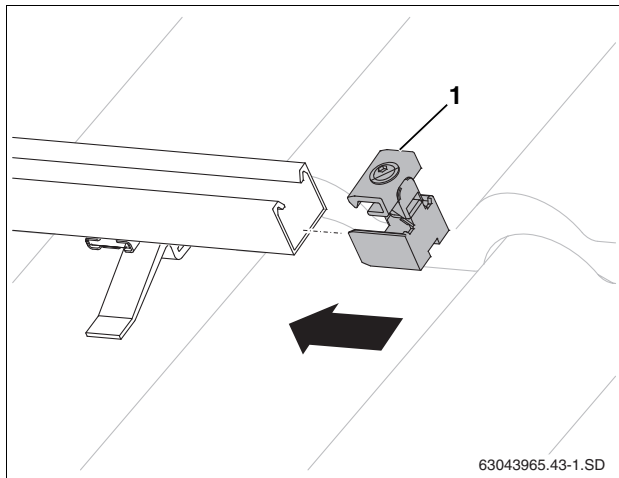

Fig. 39 Pushing on the single-sided collector clamp
- Push single-sided collector clamp (Fig. 39, [1]) onto each horizontal rail at one end of the collector array until it clicks into the first slot.